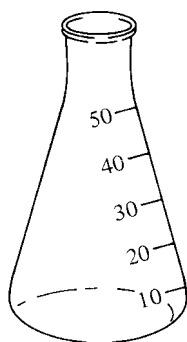

Figure 1.6
- Take a 50-mL graduated Erlenmeyer flask (Figure 1.6) and fill with water to the 50-mL mark. Transfer the water, completely and without spilling, to a 100-mL graduated cylinder. Record the volume on the Report Sheet (1) to the nearest 0.1 mL; convert to L.